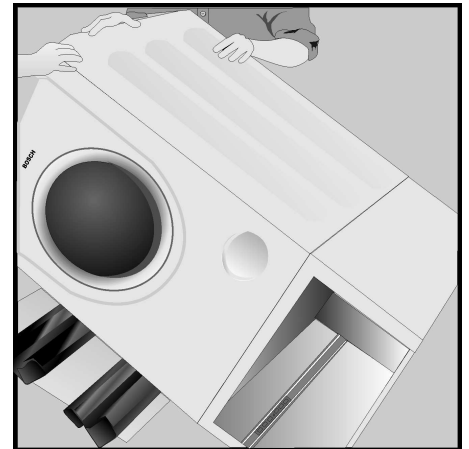

Figure 13
- Lift the appliance and pedestal assembly back to an upright position (use of an assistant is required) (see Figure 13).